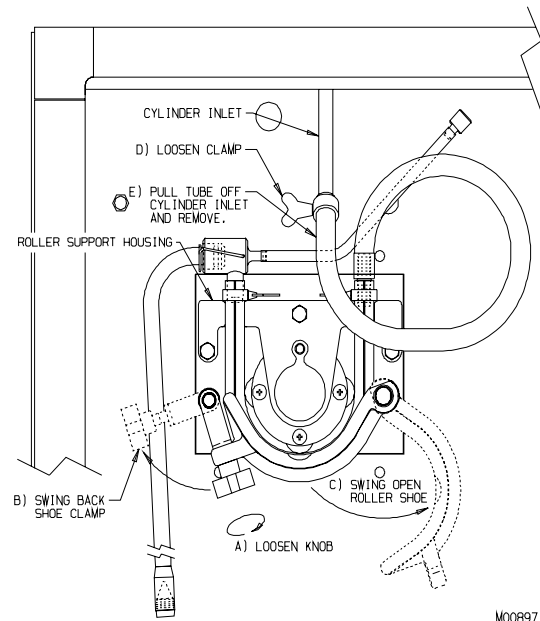

Figure 6-4 MTS
11. Remove MTS hose assemblies from the Mix Transfer Systems as follows (figure 6-4):